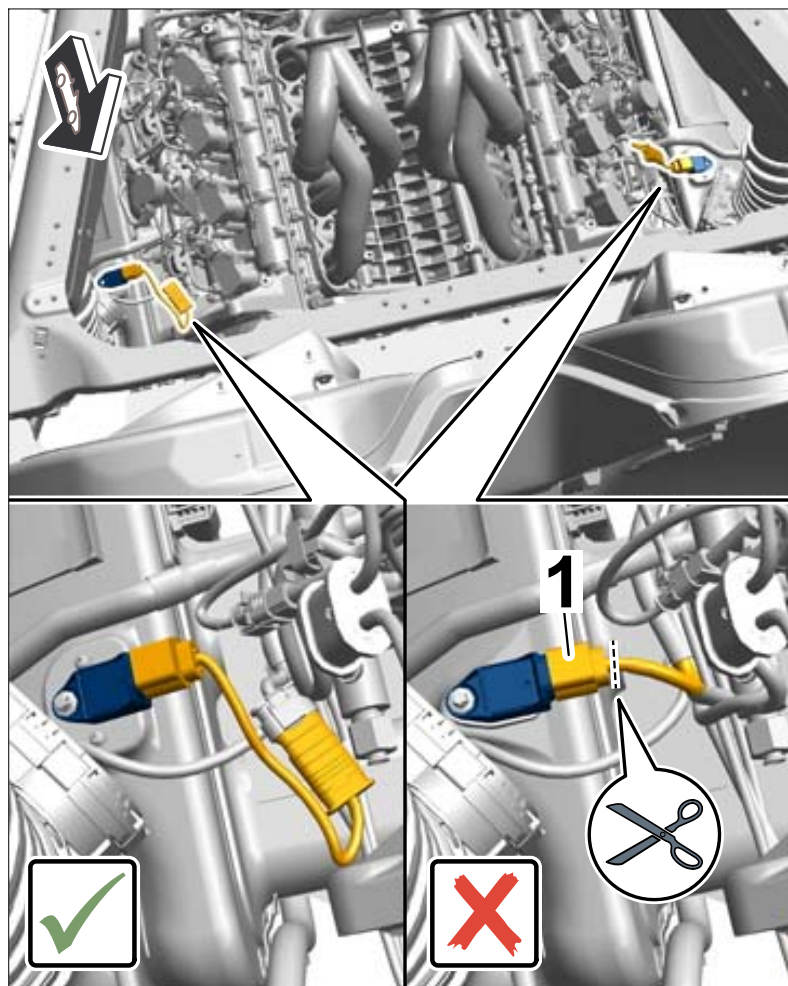

Figure 1
- 2.1 If the **adapter intermediate piece is already fitted** between the engine wire harness and intake manifold pressure sensor connector (⇒ *Figure 1-Left-*)
- 2.2 If there is **no adapter intermediate piece** between the engine wire harness and intake manifold pressure sensor connector (⇒ *Figure 1-Right-*)
The engine wire harness connector (⇒ *Figure 1-Posi. 1-*) is secured directly to the intake manifold pressure sensor connector.
- 2.2.1 Disconnect engine wire harness connector from the cable (⇒ *Figure 1 - Use wire cutters - Pos. 1-*) and crimp the new connector with new contacts and single-wire seals (variant b – Part No. of set: 918.607.913.00 – 2 required) to the engine wire harness.